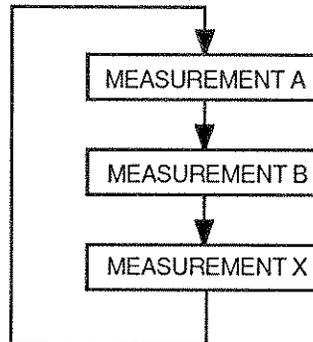

Figure 6-2. Serial Lists
*Serial* list takes measurements in the exact order that they appear in the measurement setup, thus the measurement modules must wait their turn. See figure 6-2.